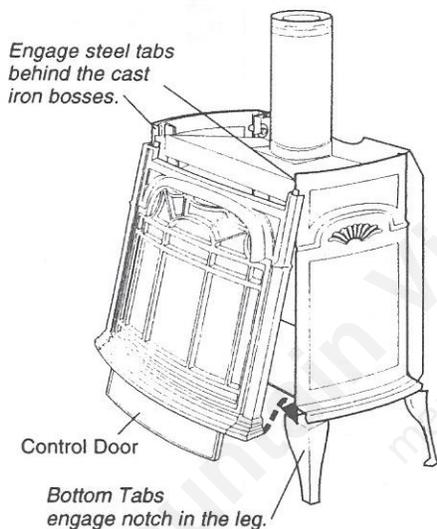

Figure 27. Install the Front Plate.
1. Hold the Front Plate by the window bars and lift it into position, engaging the two steel tabs on the top corners behind the adjacent bosses in the Side Plates. Figure 27. Then seat the Front against the sides so that the tabs at the bottom lip engage with the notches in the stove legs.